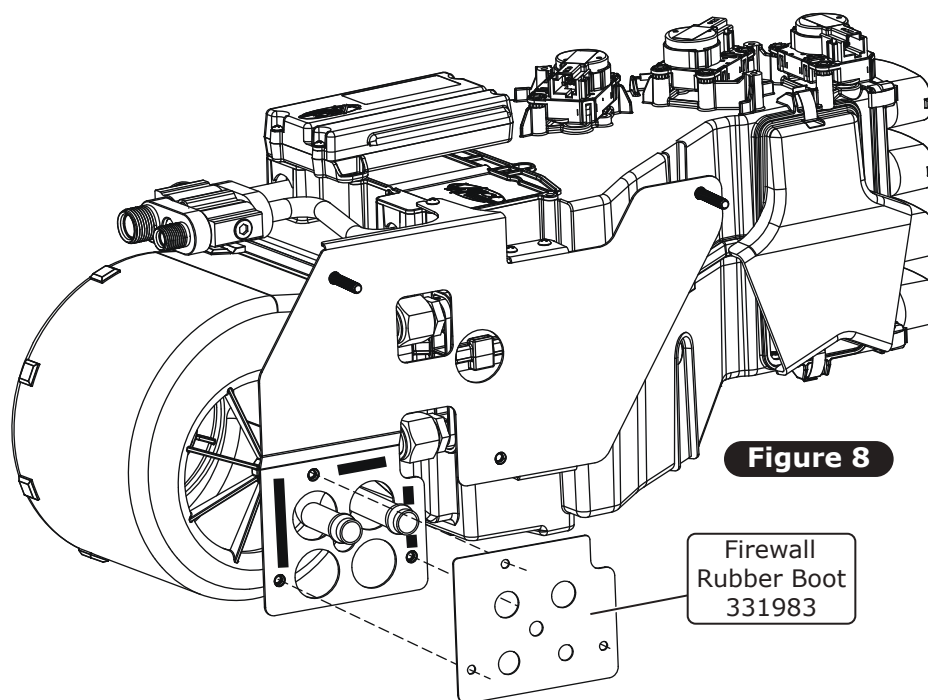

Figure 8
9. Install the firewall rubber boot onto the evaporator firewall bracket (See Figure 8, below). **NOTE: The transfer tape will secure the boot during installation of the evaporator module. Ensure all holes on the boot and bracket are lined up, and the hardlines are tight.**